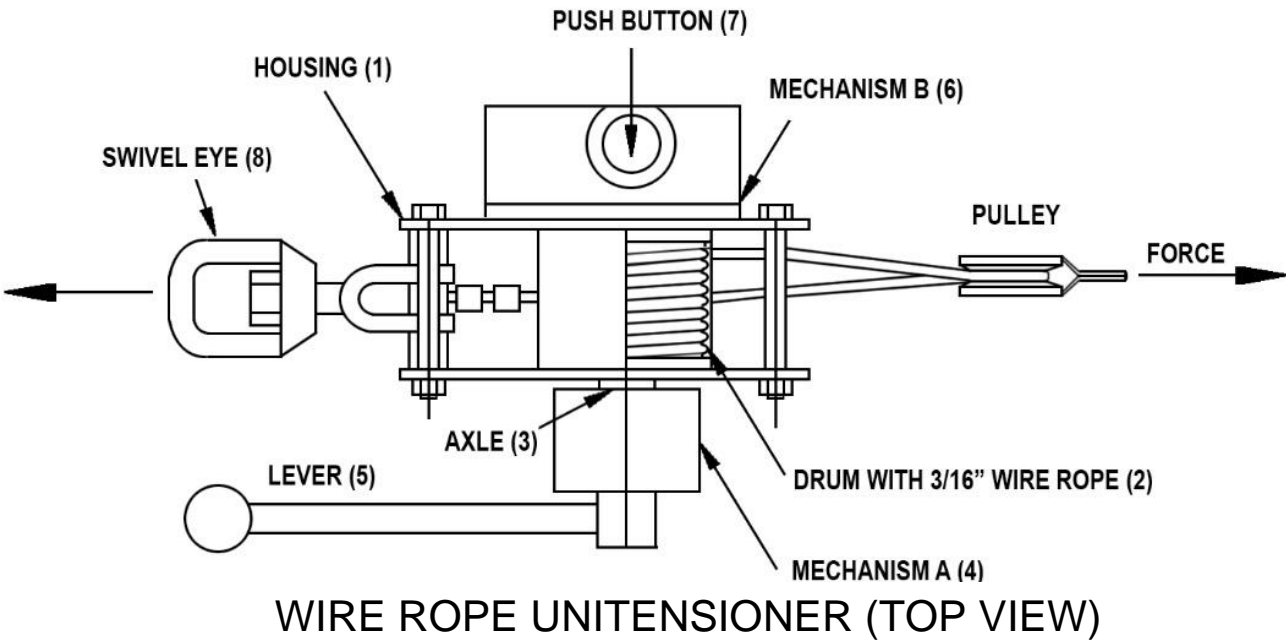

FIG 4
The Unitensioner® consists of the following parts (Fig. 4):
- Hold the Unitensioner® With Mechanism A facing you, press down on the button on Mechanism B (Fig. 4, no. 7) with one hand. With the other hand, extend the wire rope from the drum (Fig. 4, No.2) by pulling on the attachment pulley (Fig.4, No.8) until the distance between the pulley and the end of the housing edges is approximately 10-12 inches. Temporarily rest the Unitensioner® on the work surface.
- Tighten the line, by inserting the lever (5) (Fig. 4, No.5) into Mechanism A and turning counter clockwise until the turning cylinder stops clicking and begins to slip.